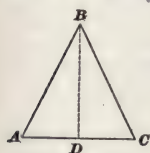

FIG. 30.
**60.** The altitude of any triangle is a line, as  $BD$ , drawn from the vertex  $B$  of the angle opposite the base  $AC$ , perpendicular to the base, as in Fig. 30, or